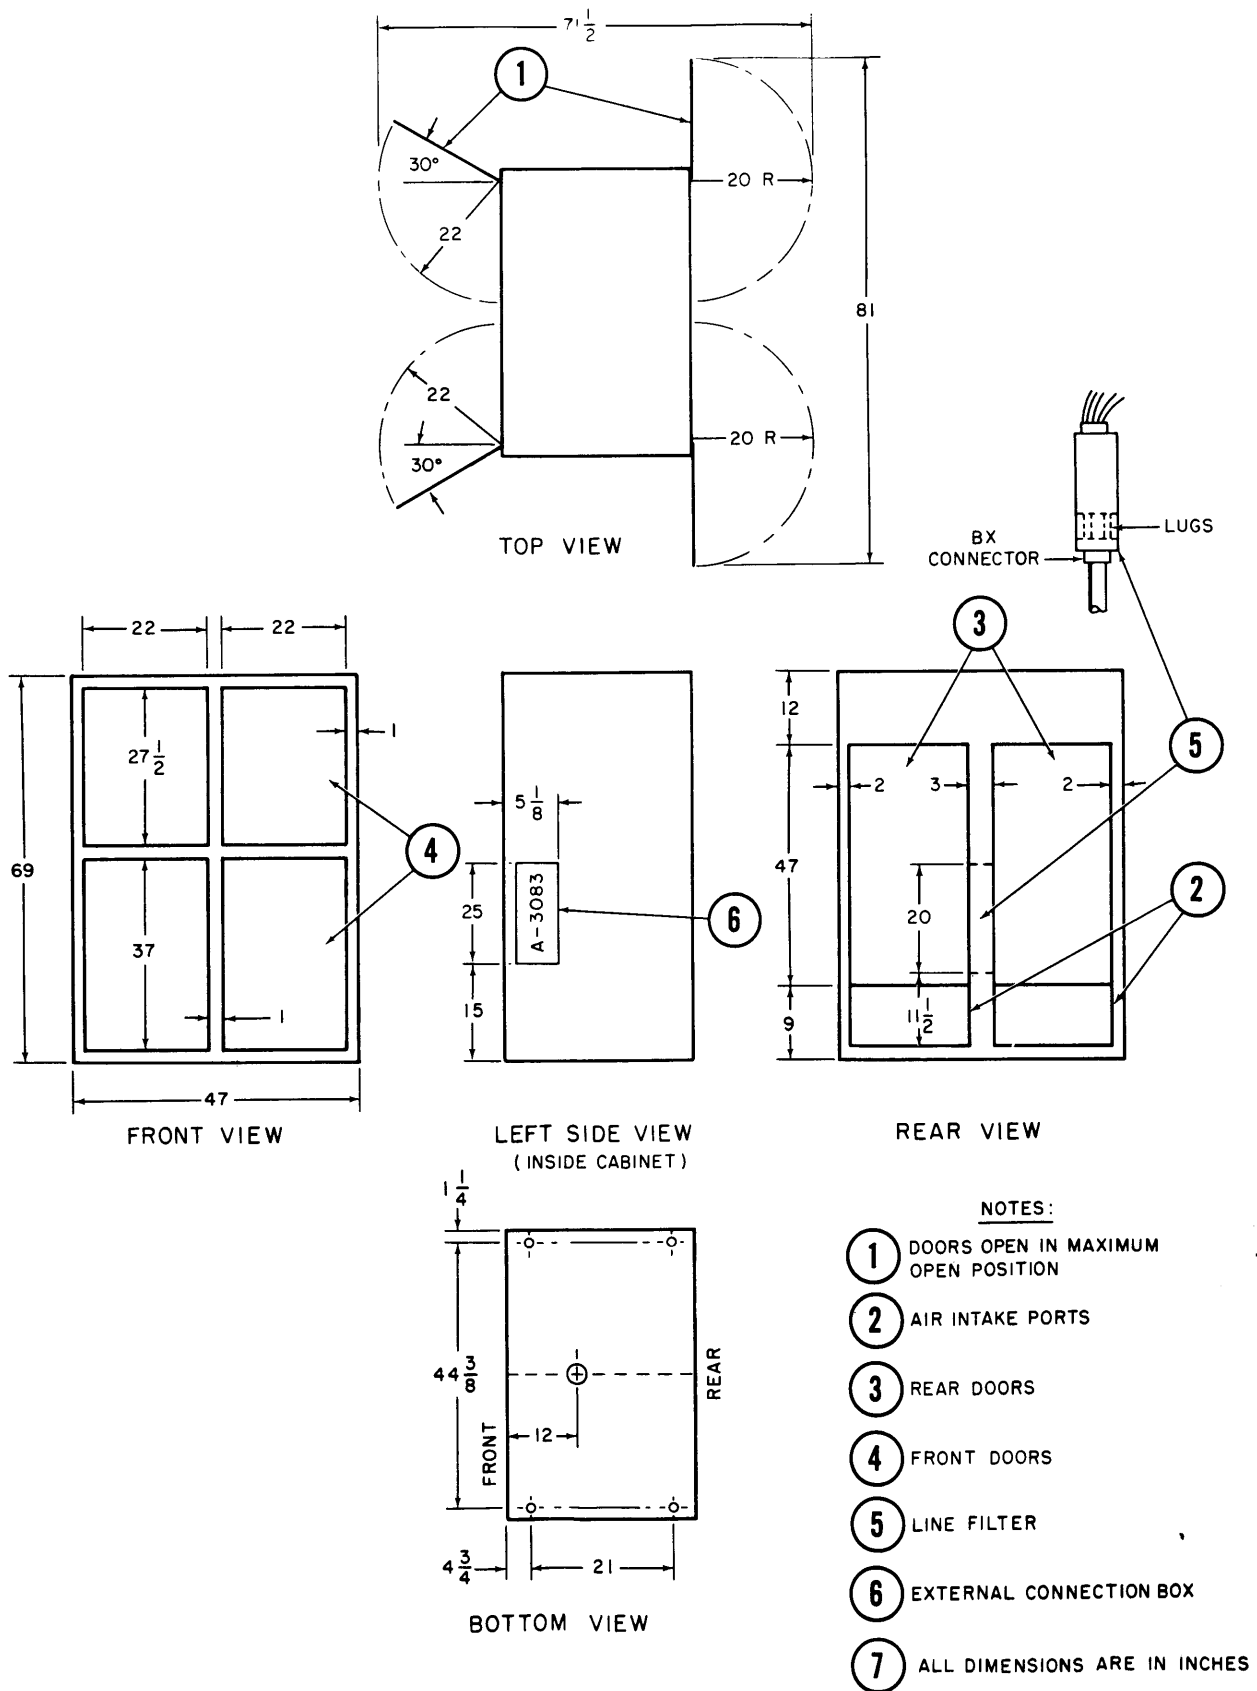

Figure 2-3. DDR-5C Dimensional Outline Drawing
(2) CABLING INTERCONNECTIONS (paragraph 2-3,d). Use of two receivers and two synthesizers (HFS-1) makes frequency-diversity operation the normal mode. Individual receiver (non-diversity) operation is accomplished by separating the agc circuits of both receivers via the AGC switch located on Audio Switch Panel HSP-2; Figure 2-4 of the manual does not apply. Cabling interconnections for both receivers are the same as indicated in Figure 2-3 of the manual with the following exceptions: